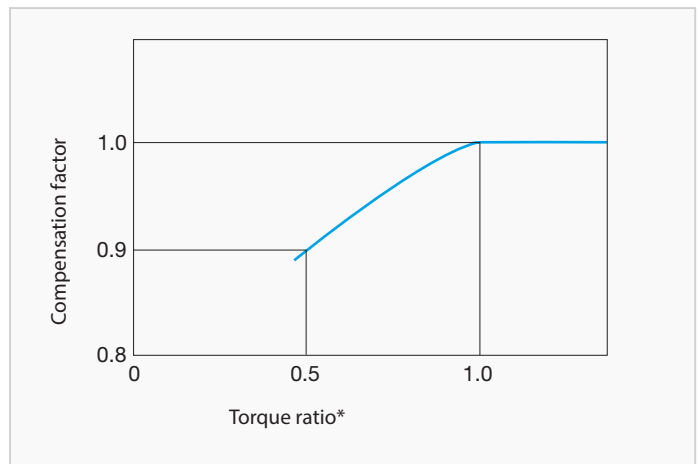

Fig. DA-3 Compensation curve for efficiency
1. The efficiency changes if the load torque does not match the nominal torque. Check the compensation factor in the diagram Fig. DA-3.
2. When the torque ratio is over 1.0, the compensation factor for efficiency is 1.0 (diagram Fig. DA-3).